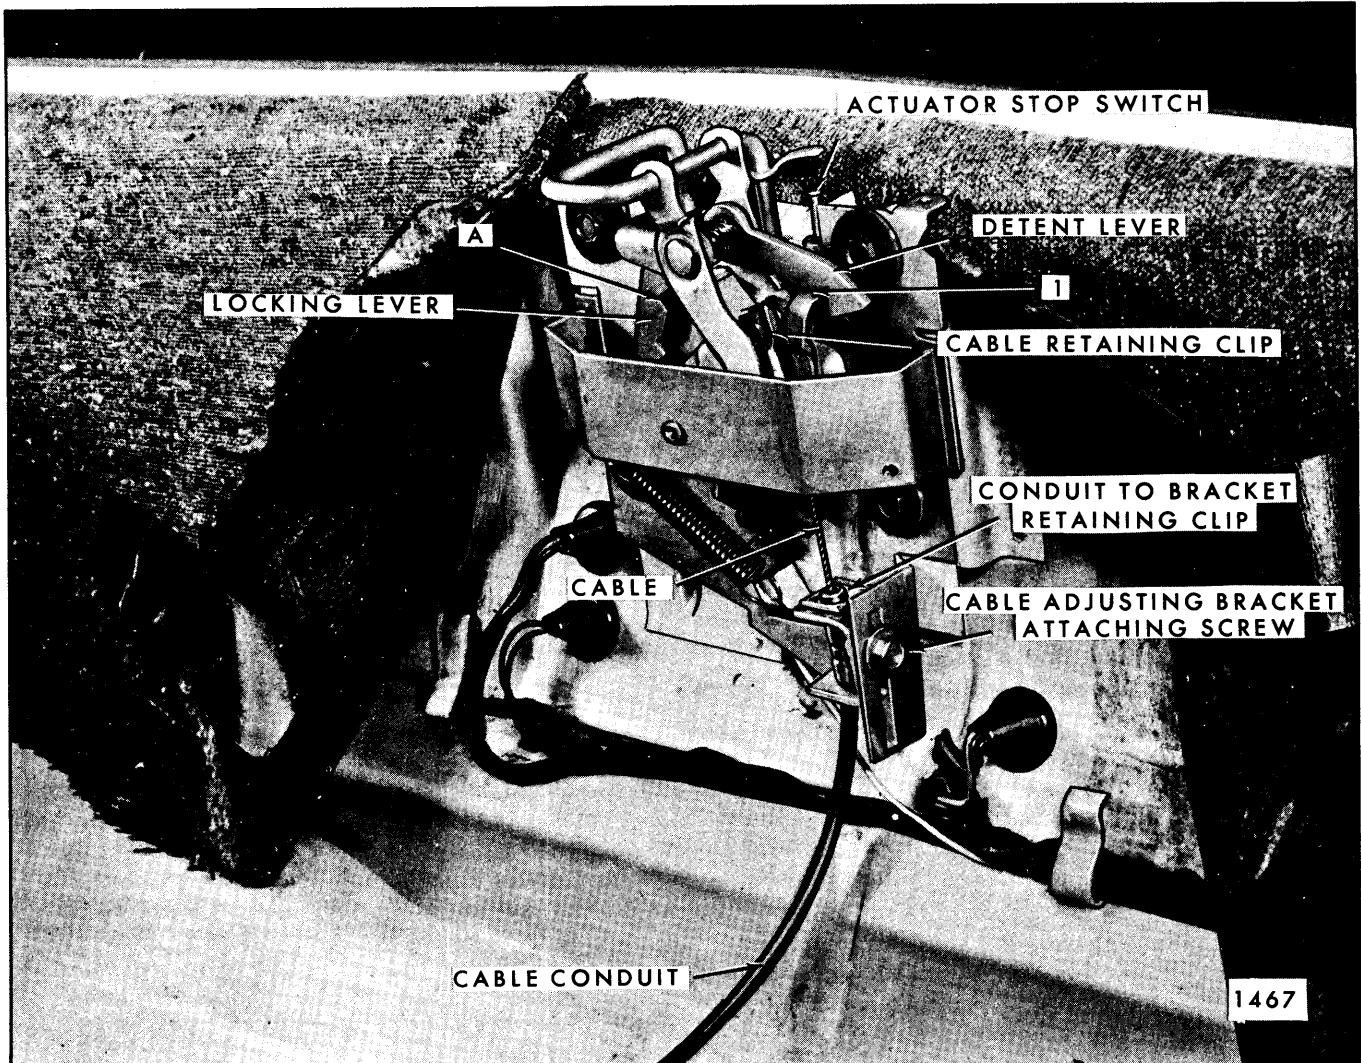
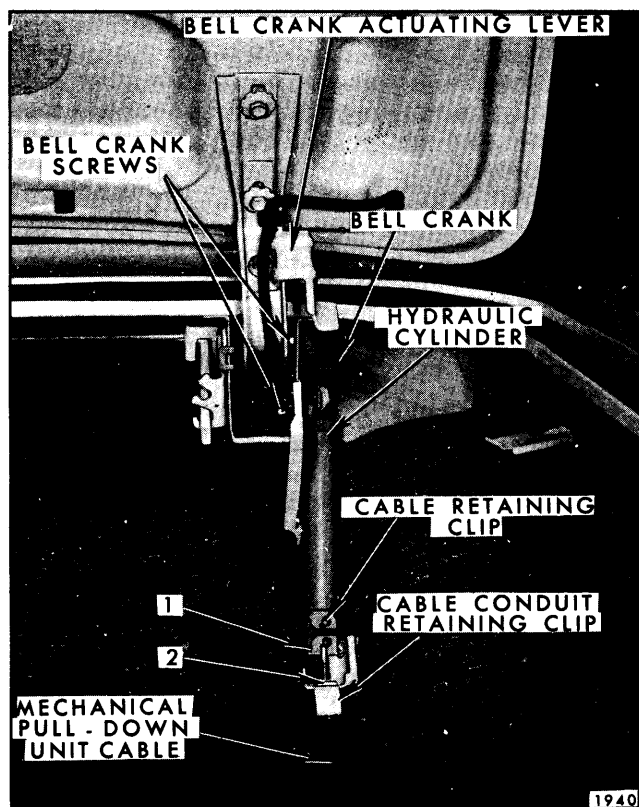

Fig. 8-23—Rear Compartment Mechanical Pull-Down Unit - Cadillac Styles with Option
Fig. 8-25—Mechanical Pull-Down Unit Hydraulic Assembly - Cadillac Styles with Option
slightly to relieve tension from cable and disengage clip securing cable to pull-down control arm (Fig. 8-23).
away from hooked end of pull-down unit cable. Disengage cable from slot in cylinder. Disengage cable conduit retaining clip from support on wheelhouse and remove cable and conduit from support (Fig. 8-25).
2. Repeat this procedure at other end of cable, disengaging clips securing cable to pull-down unit and cable conduit to adjusting bracket (Fig. 8-23), and remove cable from body.
To increase cable tension, position hydraulic cylinder end of cable in the upper slot on the lower end of the cylinder ("1", in Figure 8-25). If more tension, or finer adjustment, is required, loosen cable adjusting bracket attaching screw (Fig. 8-23). Adjust bracket downward (to increase cable travel) and tighten attaching screw.
IMPORTANT: The lack of lubrication between the toggle and the detent lever ("1", Figure 8-23) can greatly increase the effort required to trip (unlock) the pull-down unit. Therefore, make certain point of contact between these two levers is lubricated with 630 AAW Lubriplate or its equivalent.